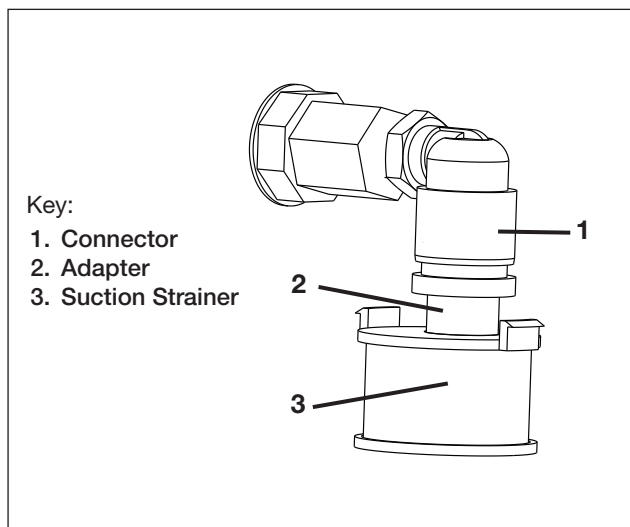

Figure 16 - Suction Strainer
- Unscrew and remove each oil suction strainer. Discard both used suction strainers. See Figure 16.
- Install two new oil suction strainers. Be sure that each new suction strainer is oriented as shown in Figure 16. Hydraulic fittings must be assembled so that flat side of suction strainer is parallel with reservoir floor. Refer to the pump repair parts sheet for part number.